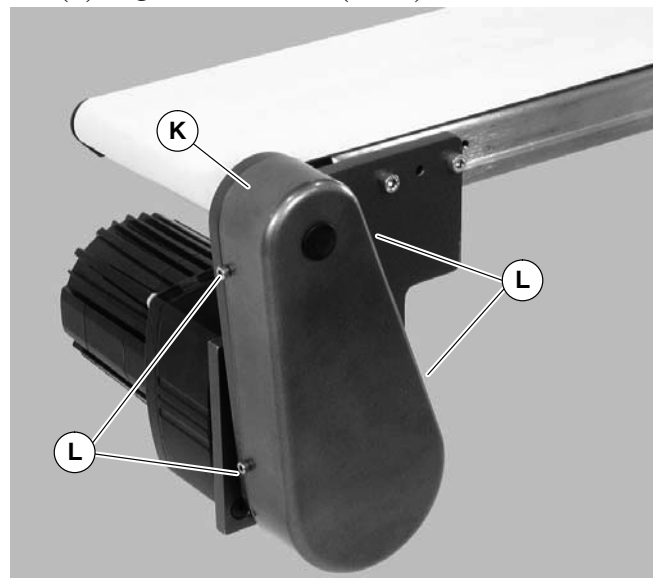

Figure 14
9. Install cover (K of Figure 14) with four (4) screws (L). Tighten to 35 in-lb (4 Nm).
1. Remove four (4) screws (L of Figure 14) and remove cover (K).
4. Install cover (K of Figure 14) with four (4) screws (L). Tighten to 35 in-lb (4 Nm).
6. Install cover (K of Figure 14) with four (4) screws (L). Tighten to 35 in-lb (4 Nm).
4. Remove four (4) screws (L of Figure 14) and remove cover (K).